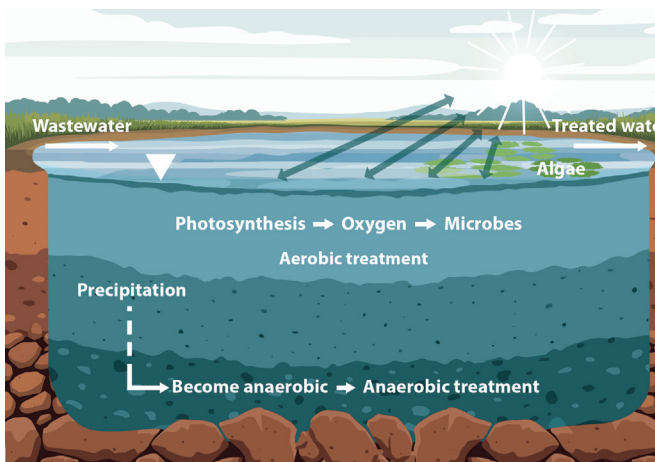

Figure 6. Aerobic Lagoon Process
- o **Efficient Nutrient Removal:** Aerobic processes can be more effective at removing nitrogen and phosphorus compared to anaerobic systems, especially if the system is designed with nutrient removal in mind (Figure 6).